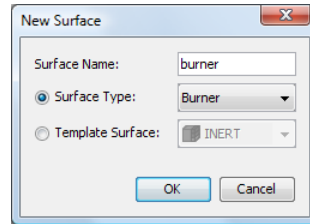

Figure 3.3. Creating a new burner surface
3. In the **Surface Name** box, type burner, Figure 3.3.